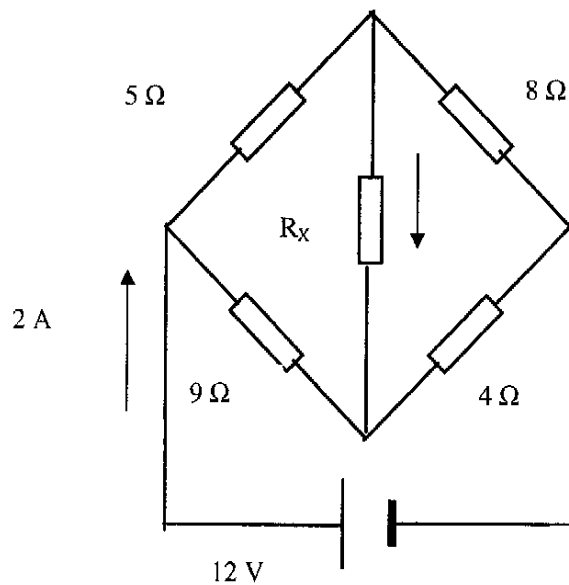

Fig Q1
1. For the network shown in Fig Q1, calculate EACH of the following:
- (a) the value of R_X so that the total current drawn from the 12 V supply shall be 2 A as shown; (8)
- (b) the potential difference across R_X ; (3)
- (c) the value to which the 5Ω resistor must be changed to give zero potential difference across R_X . (5)